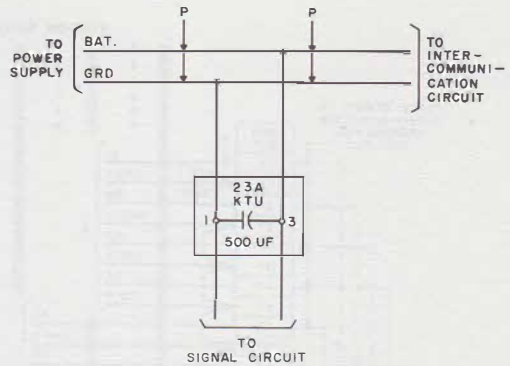

Fig. 20—Noise Suppression Filter Connections
5.05 Where a common battery feeder is used for intercommunicating and signaling, connect a 28A KTU across the signal circuit (Fig. 20) for noise suppression.